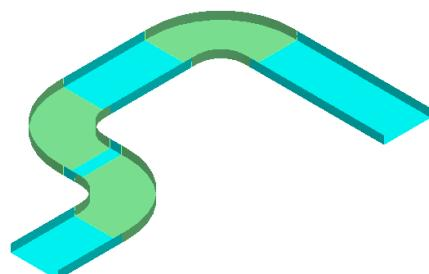

Figure 38: Routed Cableway
26. Position the cursor in the South direction and click in the graphic view to accept the position, as shown in Figure 38.